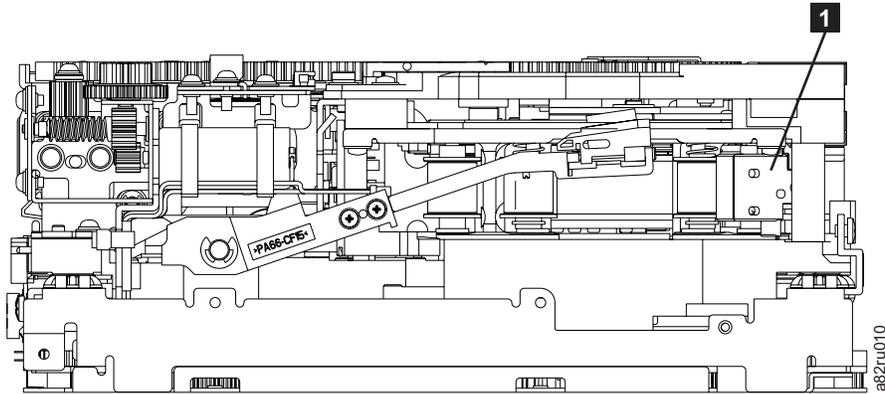

Figure 8-83. Leader Block Assembly (LBA)
9. Rotate the threader motor worm gear (**4** in Figure 8-82 on page 8-87) to turn the threader mechanism gear (**6** in Figure 8-82 on page 8-87) counterclockwise. This moves the LBA out of the cartridge and past the read/write head. Stop this rotation when the LBA is near the tape guide roller nearest the rear of the drive shown as **1** Figure 8-83.